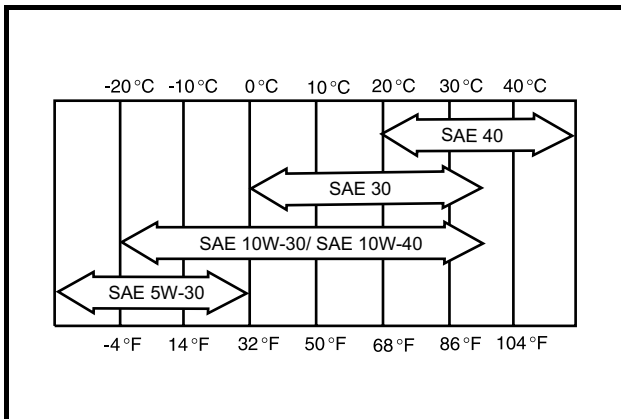

Figure 10-8 Oil Viscosity Chart
13. Remove the dipstick and add engine oil into the dipstick port. Use a funnel or pour spout to direct the oil into the dipstick port. With filter change, the engine requires 38 ounces (1.12 liters) of oil per change. Refer to oil viscosity guidelines for selection of oil grade (**Figure 10-8, Page 10-9**). Replace the dipstick.
Choose the viscosity according to the temperature as indicated by the oil viscosity chart (Figure 10-8, Page 10-9). See following NOTE.